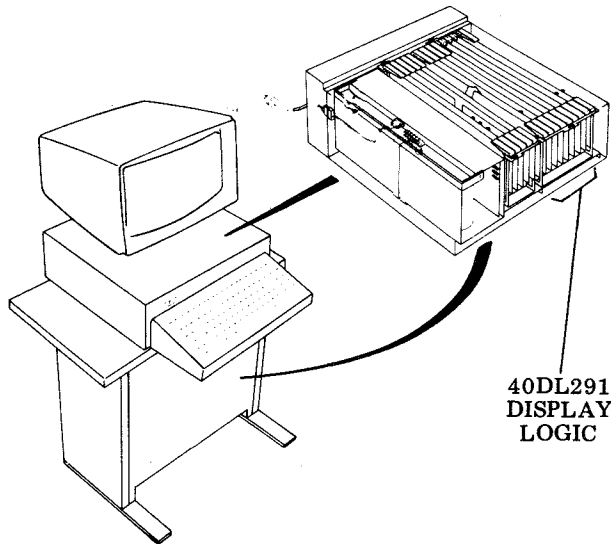

Fig. 1—Display Logic Locations
1.01 This specification gives description, installation, testing and parts information for changing a Read Only Memory (ROM) circuit pack in the 40DL291 Display Logic (Fig.1). The modified logic module will automatically skip the cursor over protected fields in the local mode.